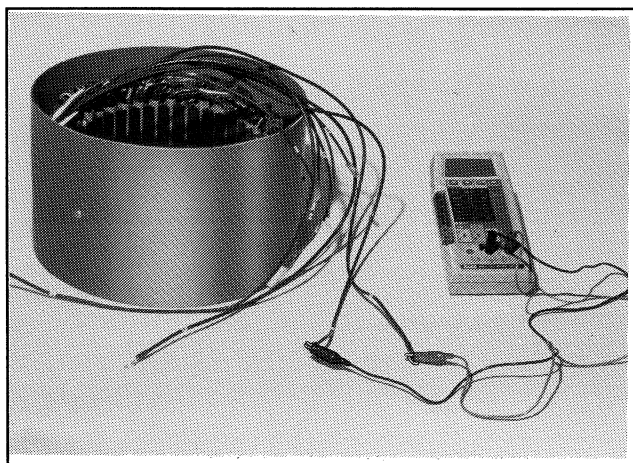

Figure 7-3. Checking Stator Continuity
1. To check stator continuity, set ohmmeter on R x 1 scale (Figure 7-3). Contact red and black meter leads; adjust meter to zero